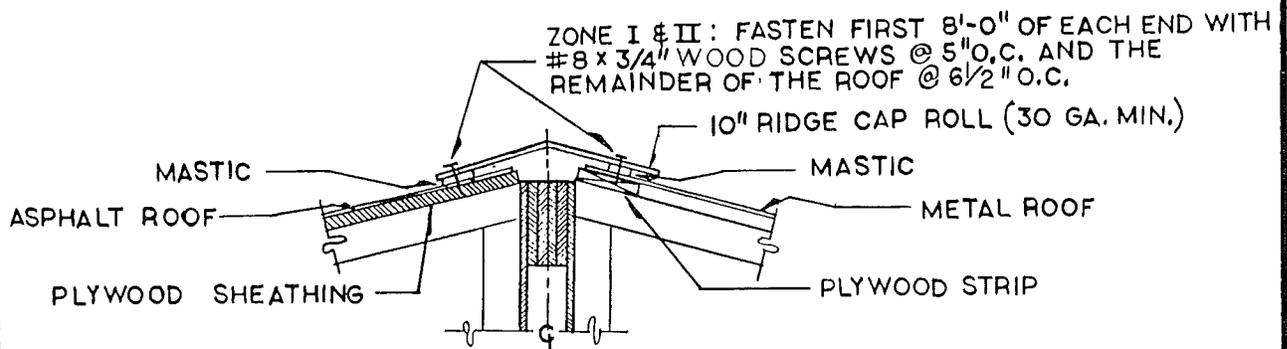

FIG. 7
13. Install the galvanized cap over the center beam with putty tape under each side. Secure with No. 8 x 3/4" wood screws. Seal along both sides and joints of cap with roof coating (See Figure 7).